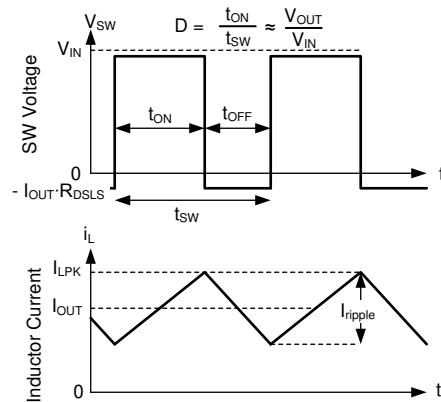

图 8-21. SW Voltage and Inductor Current Waveforms in Continuous Conduction Mode (CCM)
The following operating description of the LM62435-Q1 refers to Figure 8.2 and to the waveforms in Figure 8-21. In CCM, the LM62435-Q1 supplies a regulated output voltage by turning on the internal high-side (HS) and low-side (LS) NMOS switches with varying duty cycle (D). During the HS switch on-time, the SW pin voltage,  $V_{SW}$ , swings up to approximately  $V_{IN}$ , and the inductor current,  $i_L$ , increases with a linear slope. The HS switch is turned off by the control logic. During the HS switch off-time,  $t_{OFF}$ , the LS switch is turned on. Inductor current discharges through the LS switch, which forces the  $V_{SW}$  to swing below ground by the voltage drop across the LS switch. The converter loop adjusts the duty cycle to maintain a constant output voltage. D is defined by the on-time of the HS switch over the switching period: